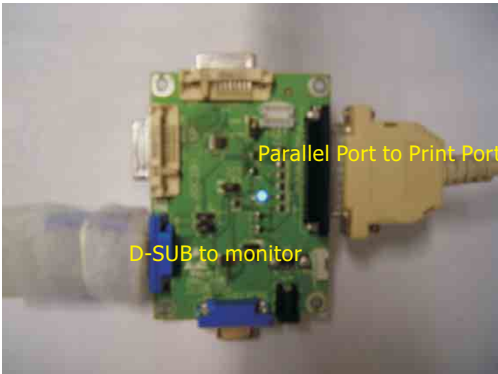

Fig. 1
- 4. DDC2BI\_ISP TOOL (3138 106 10396) as shown in Fig. 1